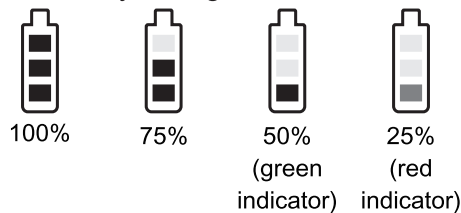

Fig. 2
- ❸ Battery Level Indicators.
- ❹ Power Button.
- ❺ Housing.
- ❻ 6.3 Ø Input Phone Plug.
- ❼ Battery Charging Contacts.
- ❽ Battery Cover and Battery Negative Pole.
- ❾ Battery Compartment and Rechargeable Battery. Insert plus positive (+) polarity battery towards inside of the compartment.
- (A) Power on: Press the power button ❹ and battery indicators ❸ are lit.
- (B) Power off: Press the power button for two seconds and battery indicators are off.
- (C) Battery level indicators, Fig. 2.
- (D) Recommend charging or replace a fully-charged battery when single red indicator remains. Power shutdown automatically when battery voltage is too low.